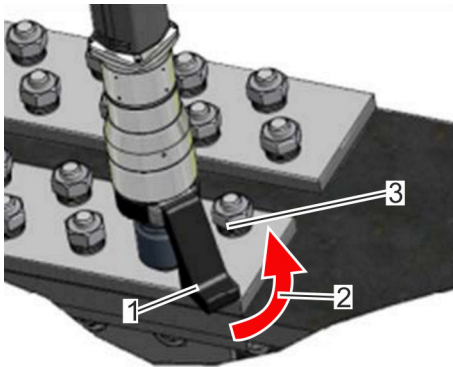

Fig. 37: Starting rotation angle
- 5. Ensure that the reaction arm (Fig. 37/1) is braced against a bracing surface (Fig. 37/3) on its side facing the nutrunner's desired direction of rotation. Ensure that there is full contact. Note the starting angle of rotation (Fig. 37/2).